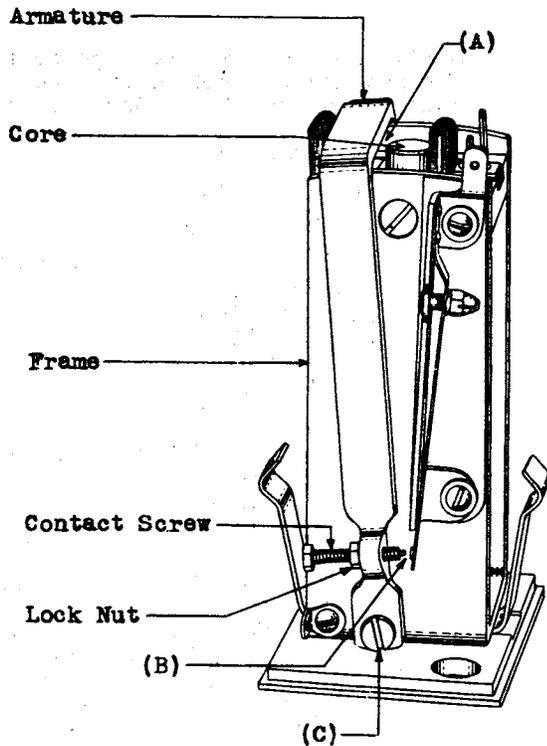

Fig. 3
2.08 Armature Movement - Fig. 3 (C) - The armature shall move freely in its bearings. Gauge by feel.
2.09 Armature Position - Fig. 3 (A) - The front edge of the armature shall be back of the adjacent side of the core when the armature is in the unoperated position. Gauge by eye.
2.11 Contact Separation - Fig. 3 (B) - The separation between the front contact spring and the contact screw when the relay is unoperated shall be approximately .015". Gauge by eye.